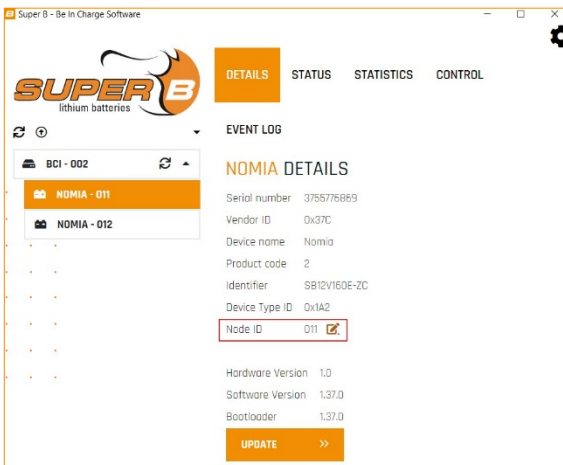
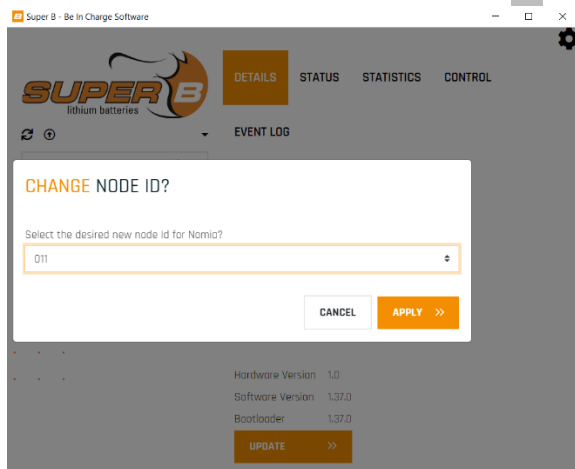

Figure 44. Change the battery "Node ID" of the first LFP battery
Figure 45. Select the desired new Node ID from the dropdown menu
2. Navigate to the 'Details' page and make sure to change the battery Node ID of the first battery to 11 (Figure 44, Figure 45).